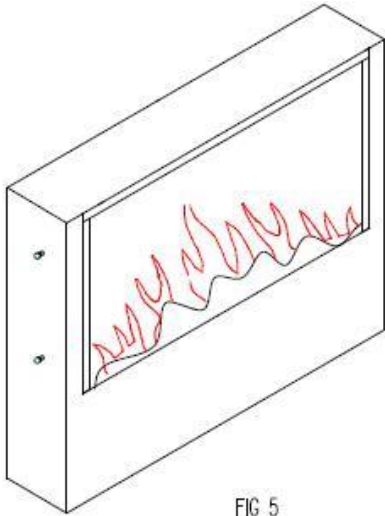

FIG 5
1. On each side of the fireplace are two locating studs (Figure 5).